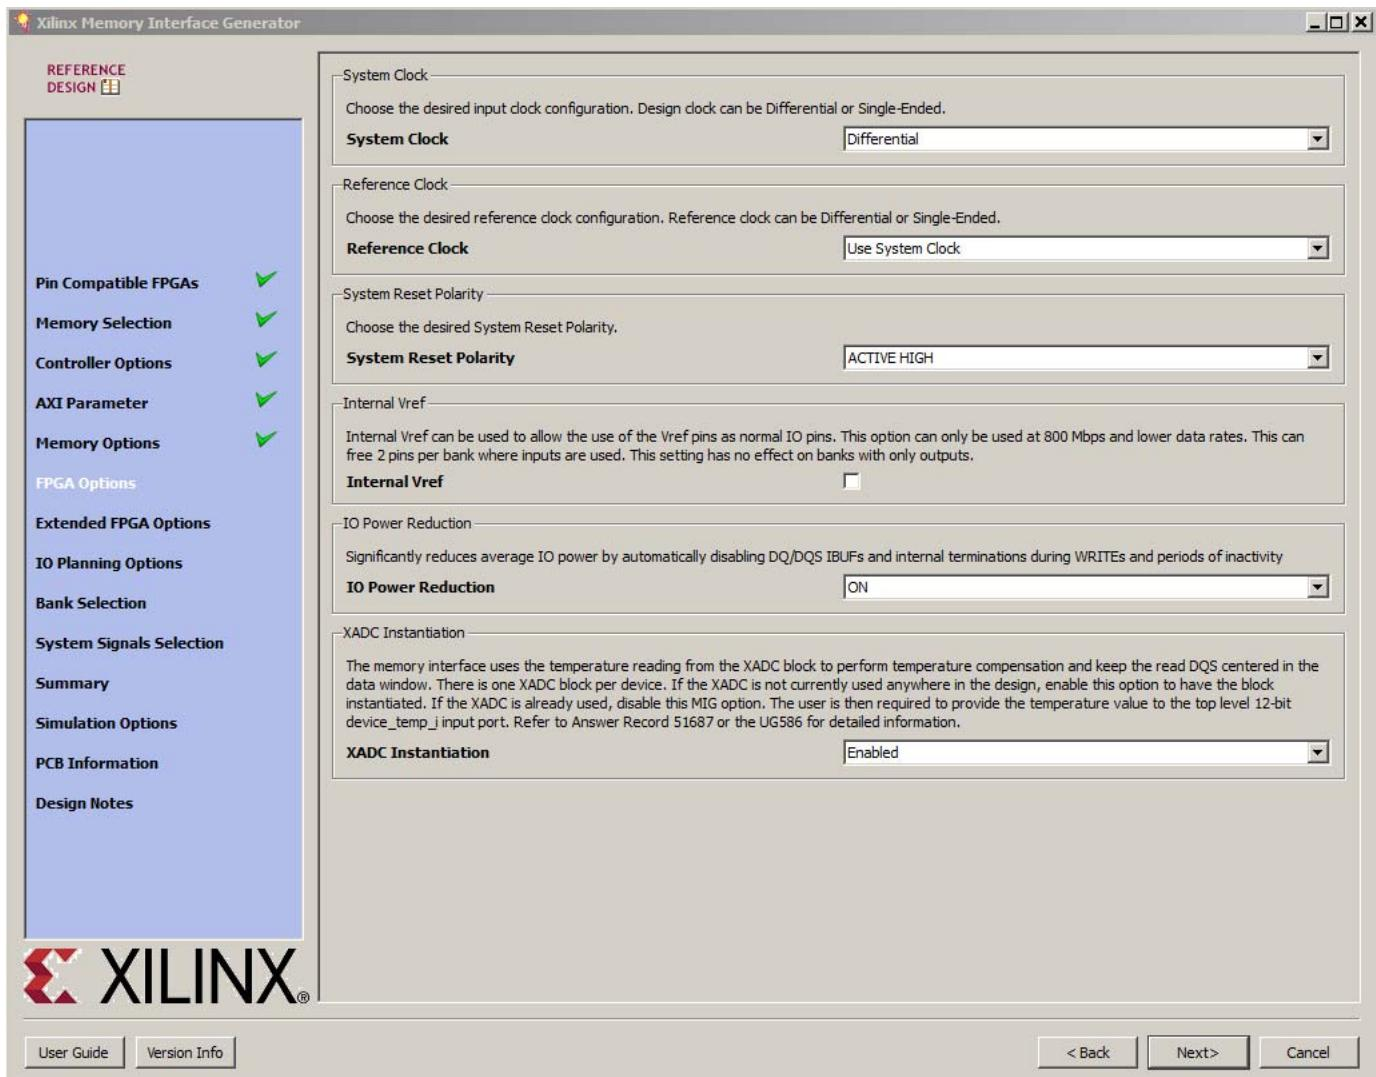

Figure 32: MIG FPGA Options
11. In **FPGA Options**, select the following, then click **Next**, (Figure 32).